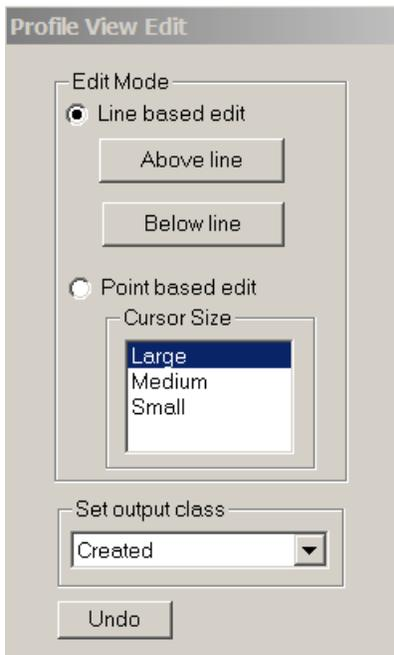

Figure 65: Profile View Edit Dialog Box
- A dialog box (as seen in figure 65) shows the Edit Mode and output class. Select line based edit. Assuming we would require the points above the white line select the option